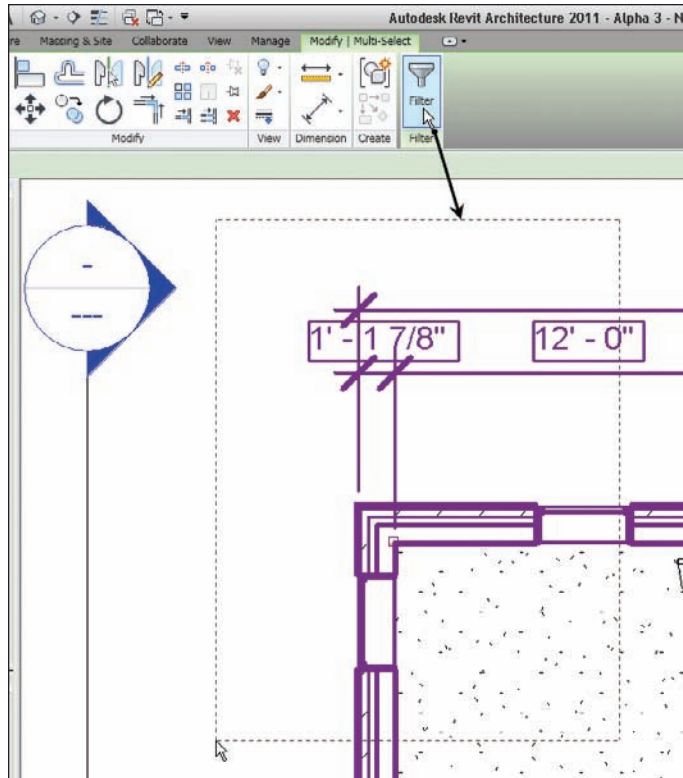

FIGURE 6.34 To select the slab, it will be easier to pick an entire area and filter the floor.
1. In the Project Browser, go to the Level 1 floor plan, and zoom into an area of the east wing similar to the area shown in Figure 6.34.
2. Drag a selection window around the corner of the building, as shown in Figure 6.34.
3. On the Modify | Multi-Select tab, select the Filter button (see Figure 6.34).